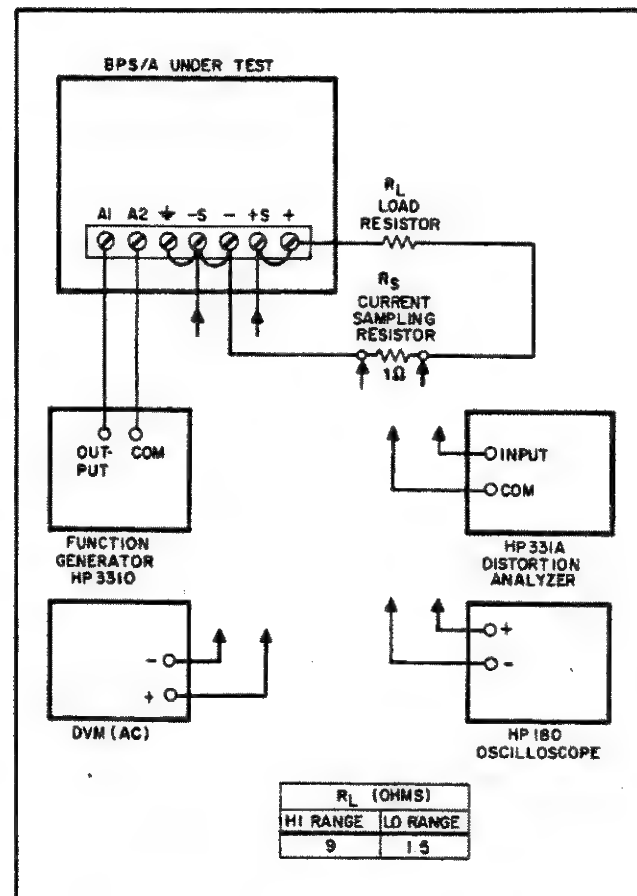

Figure 5-16. Amplifier Mode Test Setup
- a. Connect the test setup as shown in Figure 5-16. Use the appropriate low range load resistor (R_L).
- a. Connect the test setup as shown in Figure 5-16.